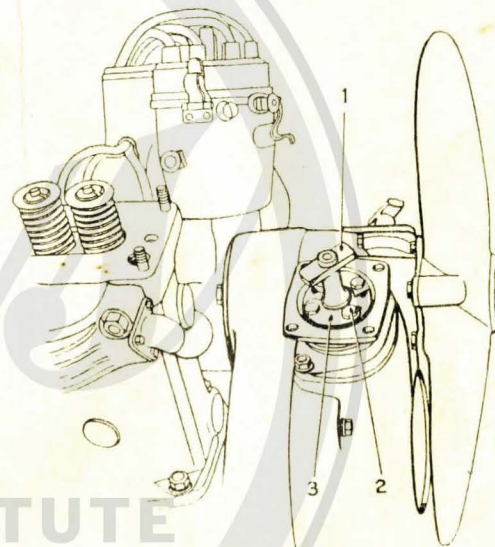

Fig. 3 - Right Coupling Position
- b. Set the camshaft so the point of No. 1 intake cam (second cam from the front) points toward the upper edge of the opening on the left side. The slot in the upper camshaft drive shaft should then point toward the fan as the housing is placed in position. This agrees with the position of the upper cross-arm of the adjusting coupling when the flywheel is set at I. O. 1. (See No. 1, Fig. 3.)